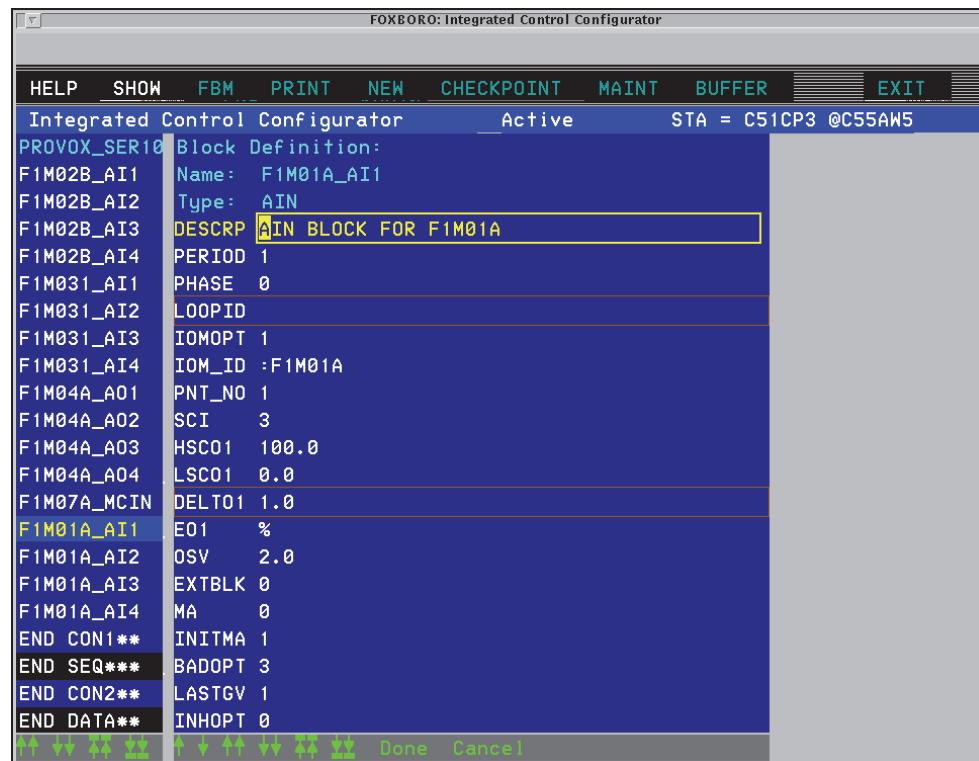
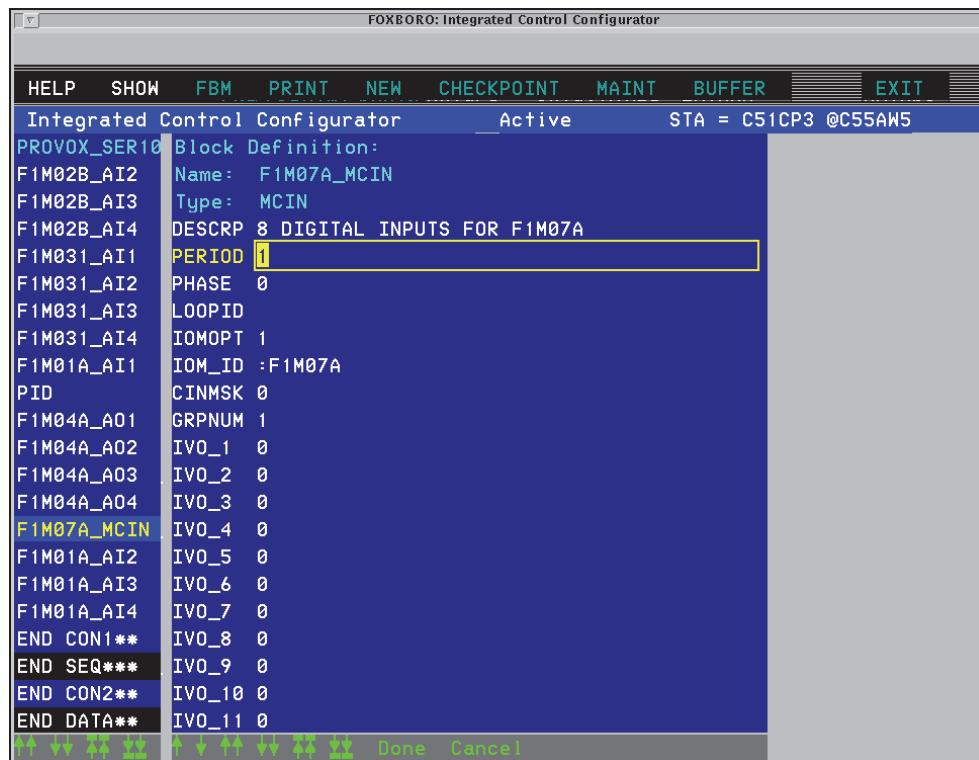
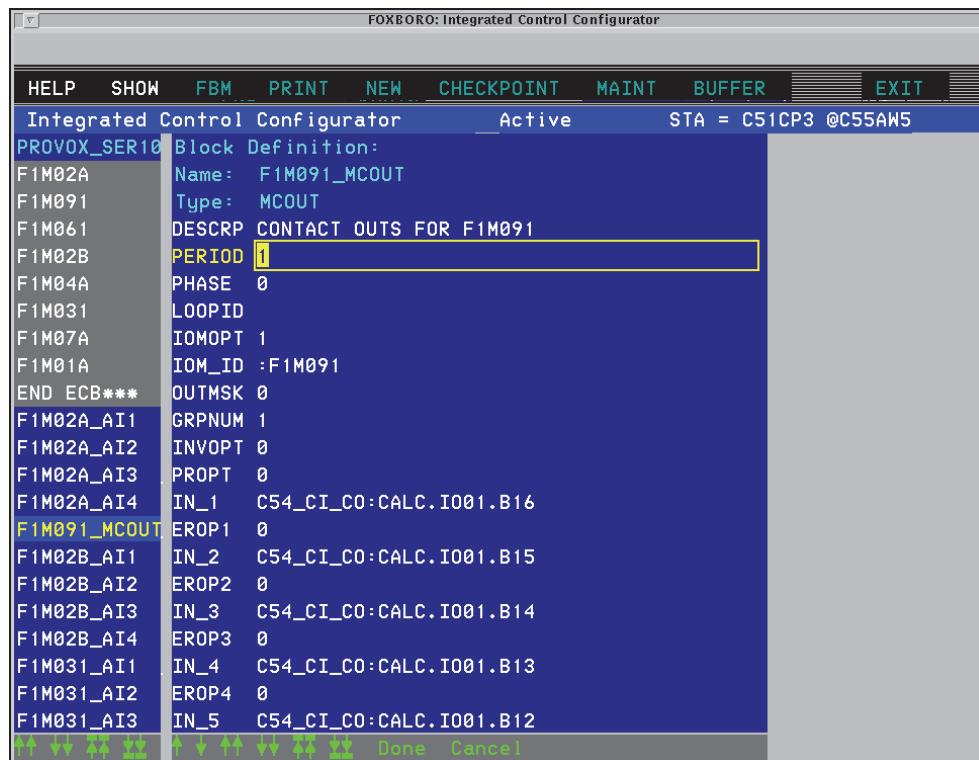

Figure 3-6. Typical Editing Display for an AIN Block
Figure 3-9. Typical Editing Display for an MCIN Block
Figure 3-10. Typical Editing Display for an MCOUT Block
- ◆ Figure 3-6 through Figure 3-9 show typical editing displays for AIN, AOUT, PID, and COUT blocks.
- ◆ Figure 3-6 through Figure 3-10 show typical editing displays for AIN, AOUT, PID, MCIN, and MCOUT blocks.